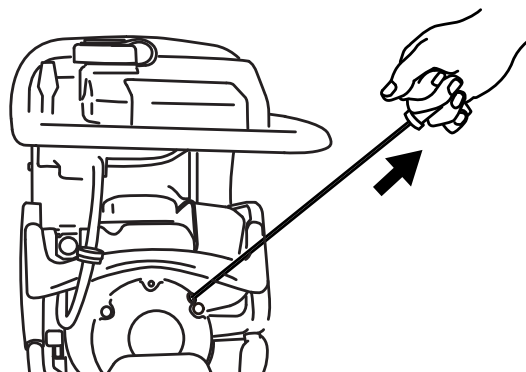

Figure 12. Recoil Starter
4. Grip the starter rope handle (Figure 12) and pull it until you feel a slight resistance. Then pull sharply and quickly. Return the handle to the starter case before releasing.